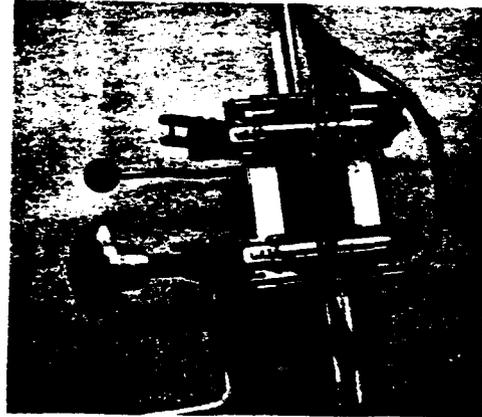

FIG. 21 WIRES TO BE FANNED
4.36 Separate out the first 32 wires (16 pairs of T and R wires) to be placed if a 32 pair connector is used (24 wires if a 25 pair connector is used). Move the remaining wires to the right away from the tool. See Fig. 21.